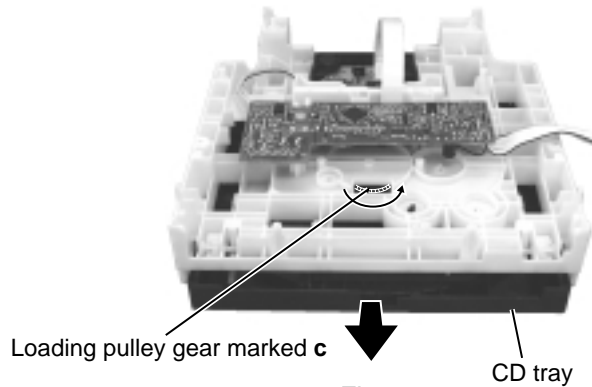

Fig.32
■ Removing the CD tray (See Fig.32 to 34)